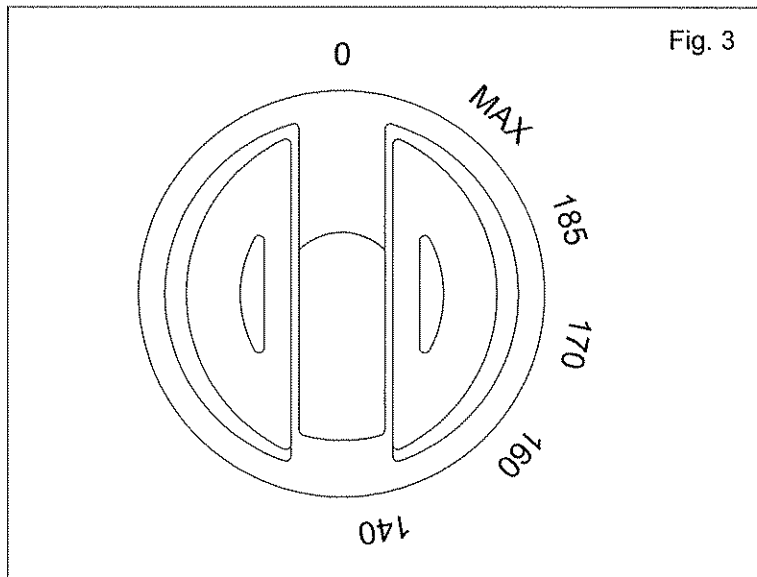

Fig. 3
- Turn the knob (Fig. 3) to set at the required temperature.
- Turn the knob (Fig. 3) back to position "0".